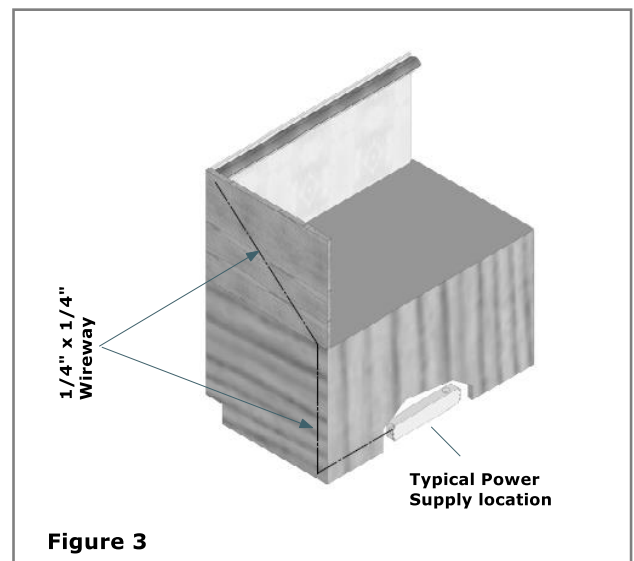

Figure 3
2. Route a minimum of 1/4" x 1/4" (6mm x 6mm) grooved channel on the inside of the cabinet end. The channel provides a wireway for the low voltage wiring from the reflector to the location of the power supply. **See Figure 3.**